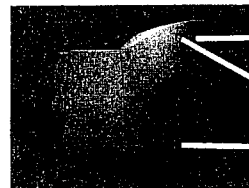

Fig. 3
Step 1: To open the lid at the right-upper side and 1 screw in right-downer side of the monitor.(FIG.3)